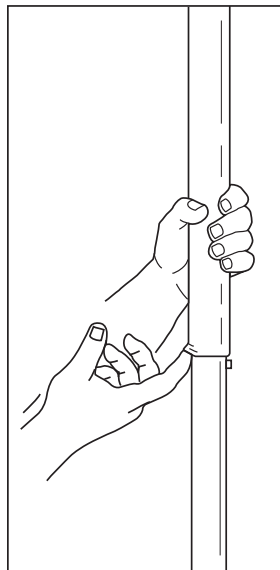
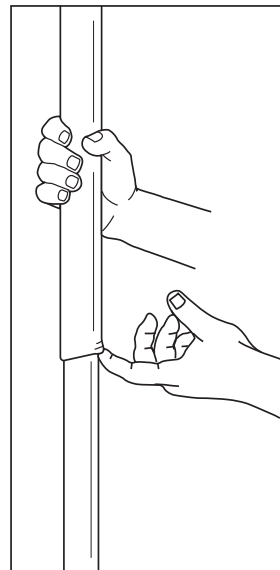

Figure 2
Figure 3
2. Use one hand to support the handle and sleeve. Use the forefinger of the other hand to gently pull out the lip of the sleeve in order to clear the bolt head (see figure 2). Once the sleeve has cleared the bolt head pull the sleeve down just enough to clear the bolt head. If the handle also includes a nut, repeat this step for the nut side (see figure 3). Once the sleeve has cleared the bolt and/or nut use two hands to slide the sleeve all the way down so the top of the sleeve end is equal with the top of the knurled handle half. **IMPORTANT: DO NOT ATTEMPT TO SLIDE THE SLEEVE**